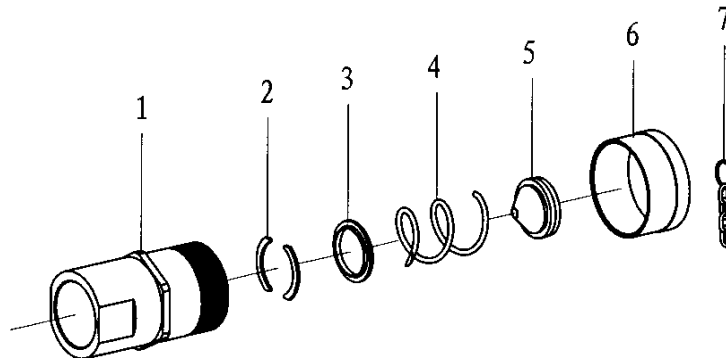

Fig. 23
7.1.16 Quick exchange adaptor (2 1/8-12UN)(Fig.23, Table.18)